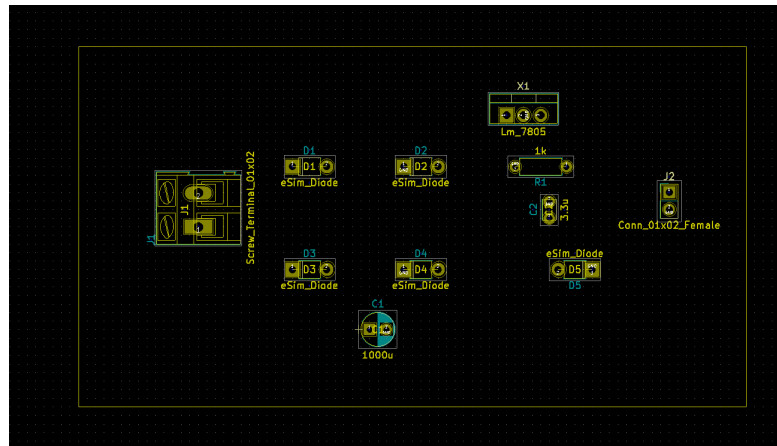

Figure 16.18: Drawing a board outline
4. Click once on the layout editor to start drawing the outline. Drag the cursor either horizontally or vertically. When it comes to the corner of the board, click once and drag the cursor in perpendicular direction. Do this till you reach the origin of the outline, and double click to finish drawing the rectangular outline. Completed outline is as shown in Fig. 16.18.
3. The procedure to place a track between Node 2 of Screw\_Terminal\_01x02 to Node 1 of D3 diode, as shown in Fig. 16.18 is described in below steps.